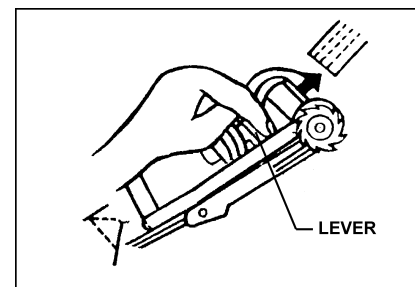

FIGURE 3
3. To loosen strap, pull back on lever to disengage the ratchet wheel. Pull strap from around ratchet wheel (Fig. 3).